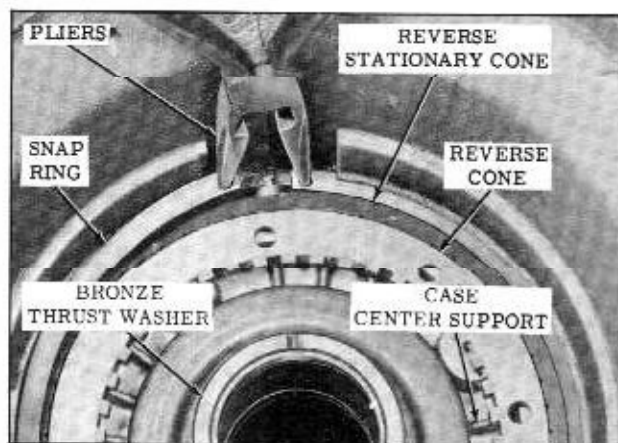

Fig. 3-96 Case Center Support Thrust Washer
10. Install case center support to front internal gear bronze thrust washer into the front clutch housing. Retain with petrolatum. (Fig. 3-96)